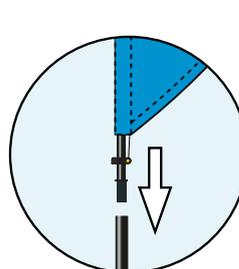

Fig 11.
9. Add the 2.5m (45mm) bottom section onto the joint of the top section. (Fig 11)